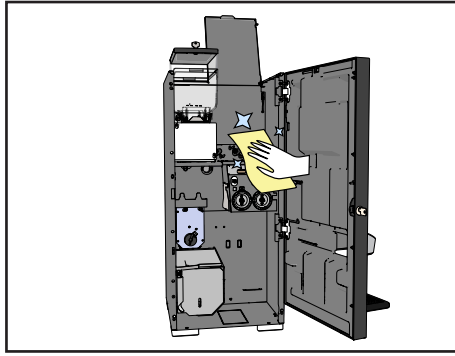

Figure 58. Clean interior of machine
13. Clean the interior of the machine with a slightly damp cloth (see Figure 58).